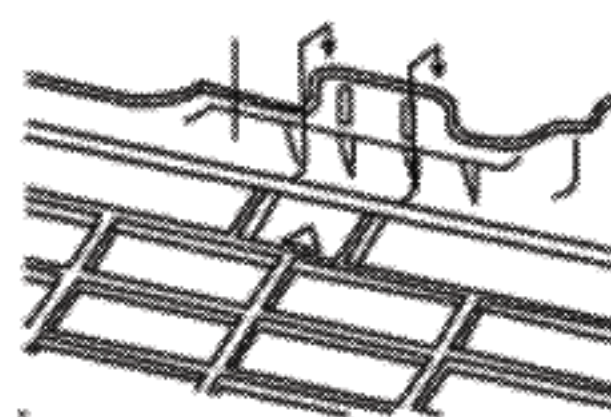

Fig. 6
3. Hang the mounting slots of the indoor unit on the upper tabs of the rear panel and check if it is firm enough. (Shown in Fig. 6)